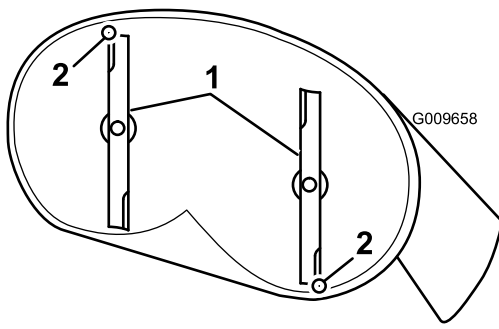
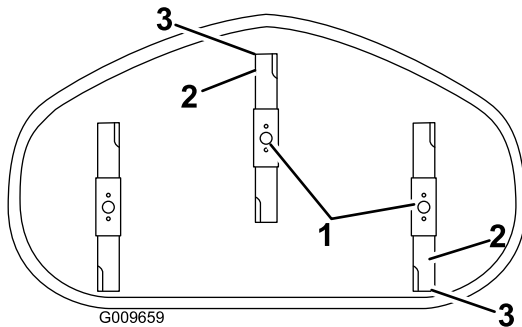

Figure 53
Figure 54
4. Carefully rotate the blades so that they are facing front to rear (Figure 53 and Figure 54).
5. Measure from the tip of the front blade to the flat surface, and the tip of the rear blade to the flat surface (Figure 53 and Figure 54).
9. After adjustment, check the front-to-rear slope again, continue adjusting the nut until the front blade tip is 1.6 to 7.9 mm (1/16 to 5/16 inch) lower than the rear blade tip (Figure 53 and Figure 54).